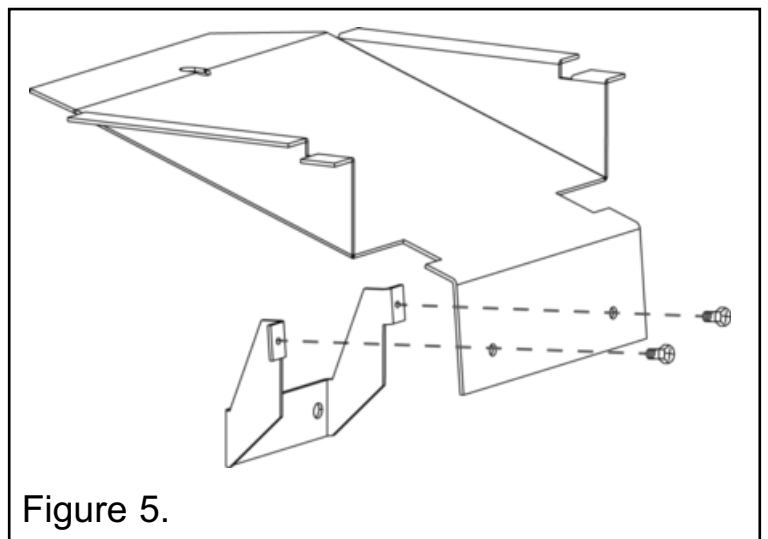

Figure 5.
- These should be fitted to the stove following figures 5, 5A, 5B and 6.
Fit the Spacer bracket as shown in figure 5 tightly to the Draught Deflector using the two screws supplied.